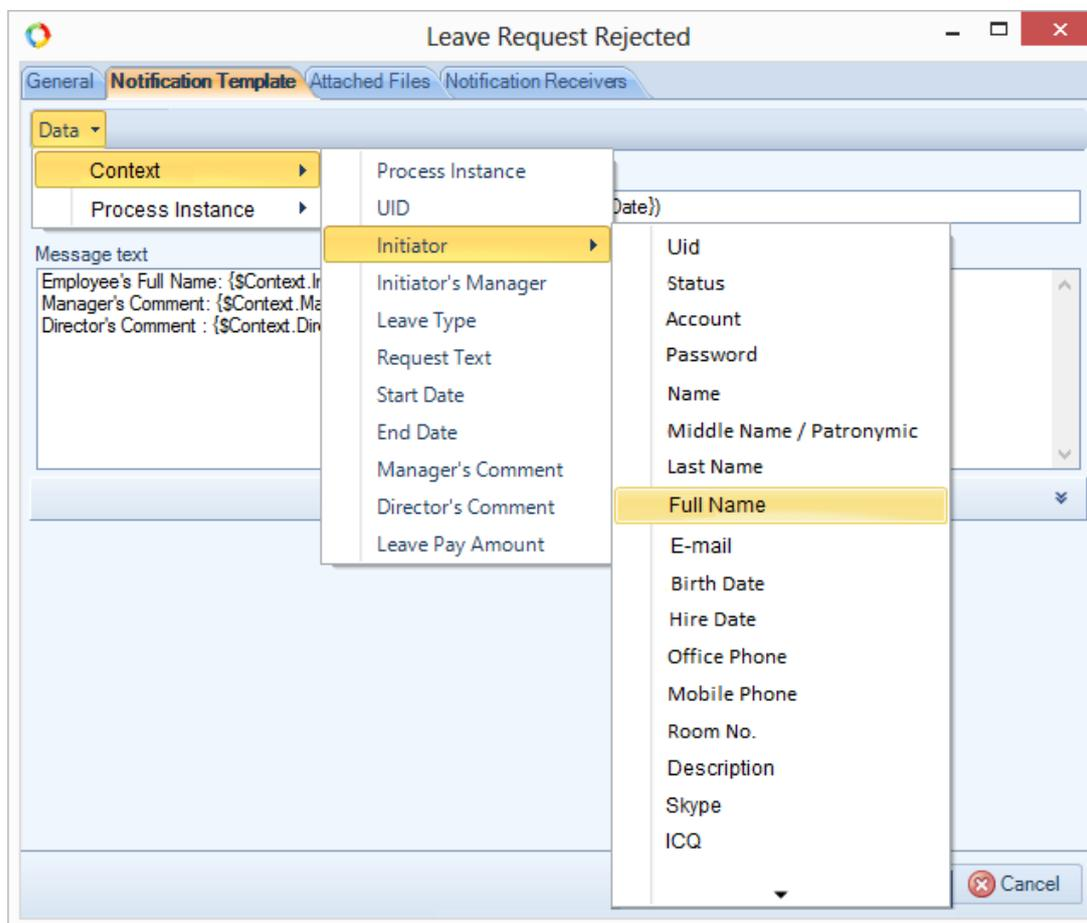

Fig. 76. Configuring the notification template
E.g., to insert the Initiator's full name, click **Context** → **Initiator** → **Full Name**; to insert the Manager's comment, click **Context** → **Manager's Comment** (Fig. 76).
**ELMA** will generate the text blocks enclosed in curly brackets { }. When sending a message, the system will use these text blocks to fill in the respective message fields (Fig. 76).